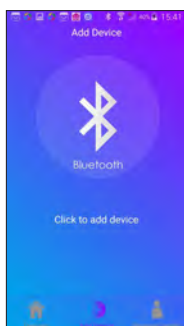

fig.2
Step 4. On the Access Mode screen, enter Wi-Fi and Bluetooth® info as needed (fig. 2). After that, the app should begin pairing.